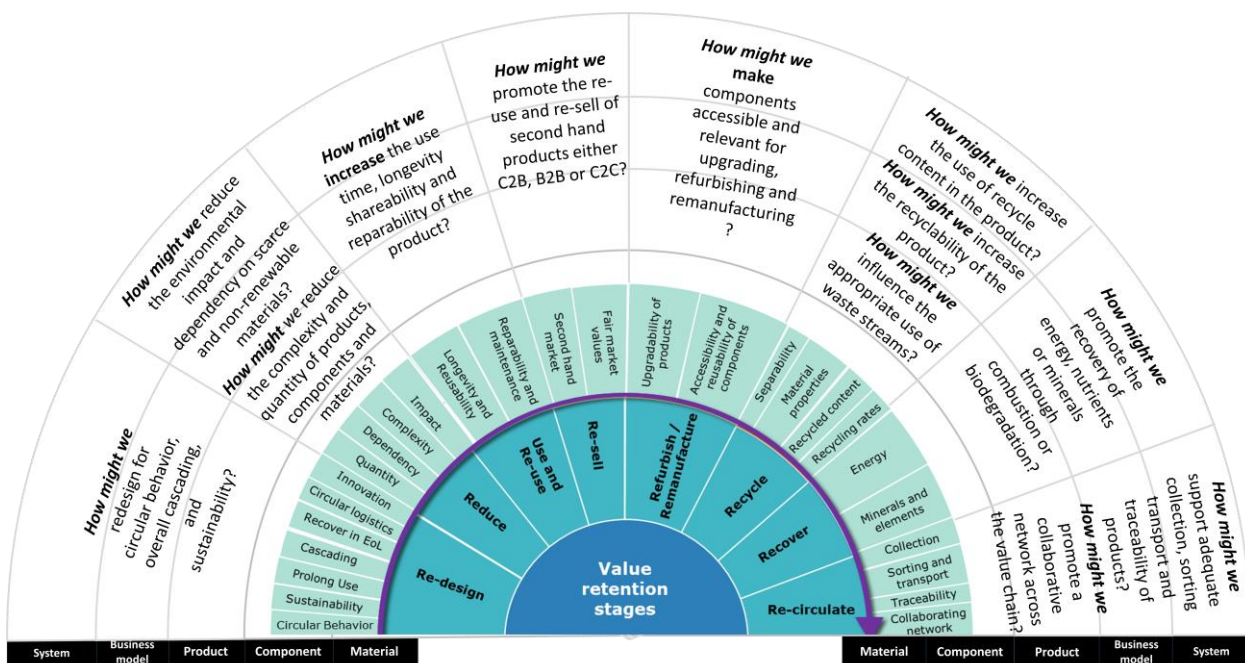

Figure 13: Key questions for solution hunting
3. Using the *circular compass*, ask yourself the questions from figure 13 (also available in the digital annex).